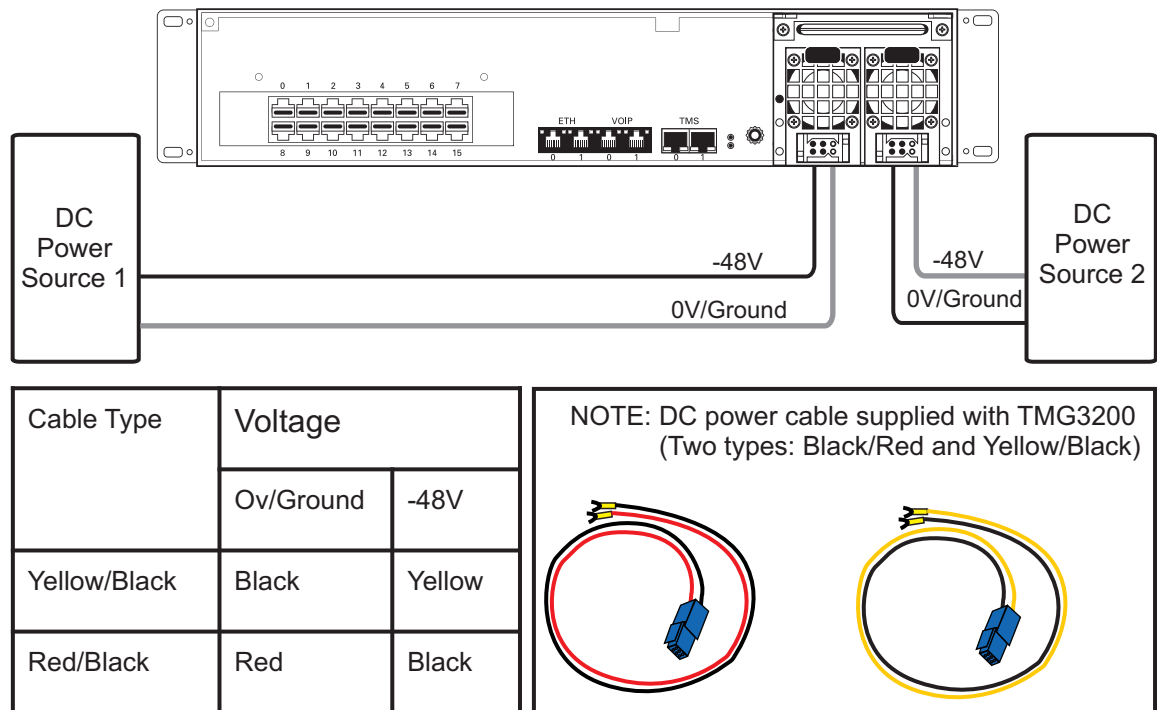

Figure 2.10 TMG3200 DC Wiring Diagram
1. Connect one DC cable, supplied with the TMG3200, as shown in figure 2.10 on page 25, to the DC outlet at the rear of the TMG3200.
Note Two types of cable with different coloring are available. Refer to figure 2.10 on page 25 for the appropriate wiring information.